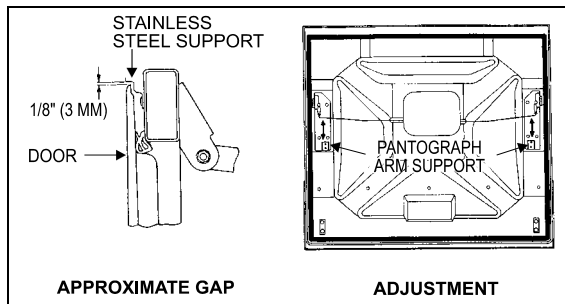

FIGURE 46: BAGGAGE COMPARTMENT DOOR 18064
1. Unscrew and remove both striker pins. Loosen bolts retaining door to pantograph and balance arm supports. With door closed, adjust height so the top of the door fits flush with the adjacent doors. Then, complete tightening the four bolts retaining door to each pantograph arm support. A gap of $1/8$ " (3mm) between the top of the door and the stainless steel support is given as a guide (Fig. 46).